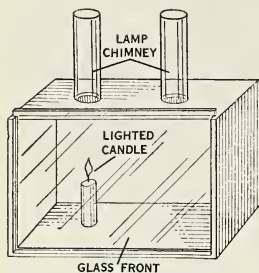

Fig. 191.
*Materials:* Box with glass front as in Figure 191; candle; 2 lamp chimneys; Chinese punk.